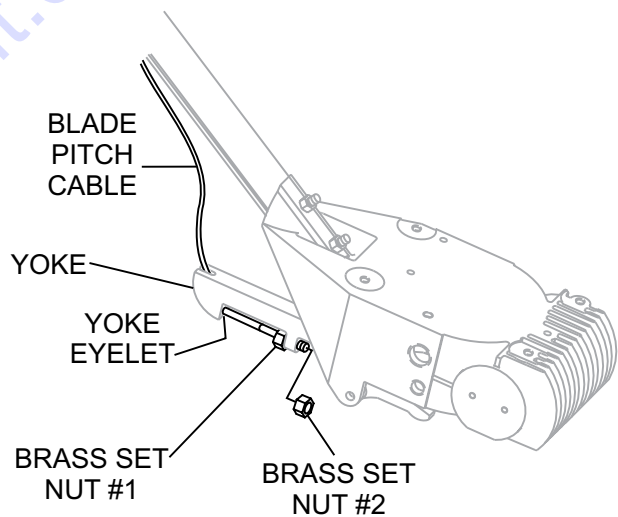

Figure 11. Cable Yoke Attachment
5. Insert the cable end through the yoke eyelet (Figure 11). Tighten brass set nut #1 by hand to remove all the slack from the cable.